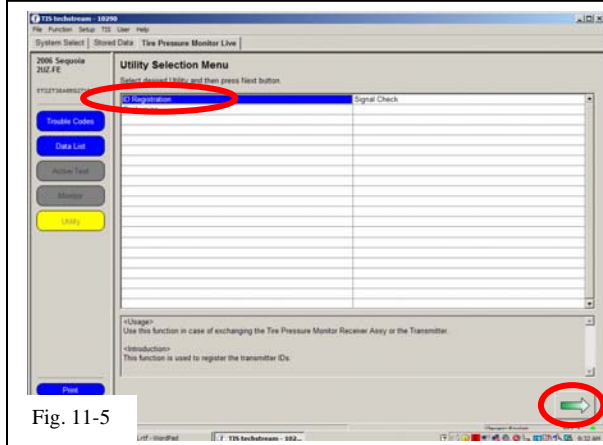

Fig. 11-5
- (h) Select “ID Registration” then click the green arrow located at the bottom right corner. (Fig. 11-5)